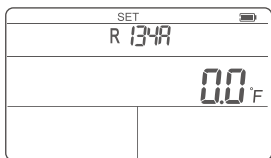

FIG. 7 Temperature Unit Setting Interface
1. Press the **MODE** button for a long time in any mode interface to enter the unit SET interface [FIG.7].